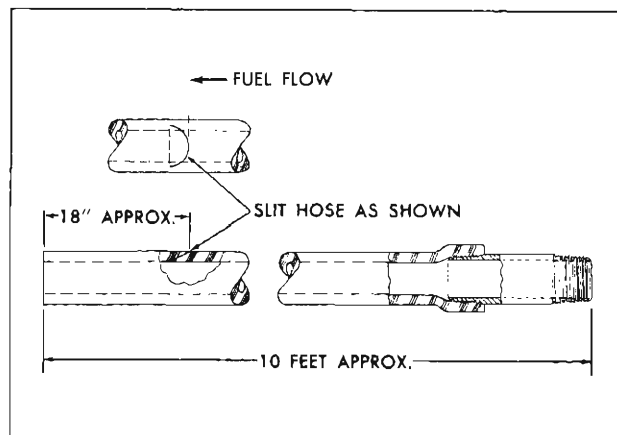

Fig. 20—Siphon Construction
1. Obtain approximately 10 feet of 3/8" I.D. hose and cut a flap-type slit 18" from one end. Make this cut on the hose in the direction toward the shorter end (See Figure 20).